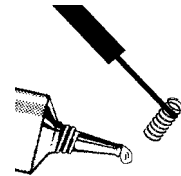

Fig. 2.
2. Touch one end of the spring into the cement so that no more than one or two coils are coated (too much cement will hamper coupler performance). See **Fig. 2**.